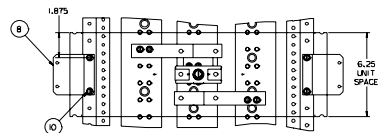

Figure 7
8. Reference fig. 7 - The mounting brackets (item 8) are to be mounted. Locate a 0.228" diameter hole on the left Z-rail 1.875" down from the top of the 6.25" of unit space. Insert one 1/4-20 X 3/8" screw (item 11) through the 0.312" diameter hole in the mounting bracket and then into the hole in the Z-rail and tighten securely. Orient the mounting bracket as shown. Insert another 1/4-20 X 3/8" screw through the second 0.312" diameter hole in the mounting bracket and then into a 0.228" diameter hole in the Z-rail and tighten securely. Repeat the same steps to install the second mounting bracket onto the right hand Z-rail.